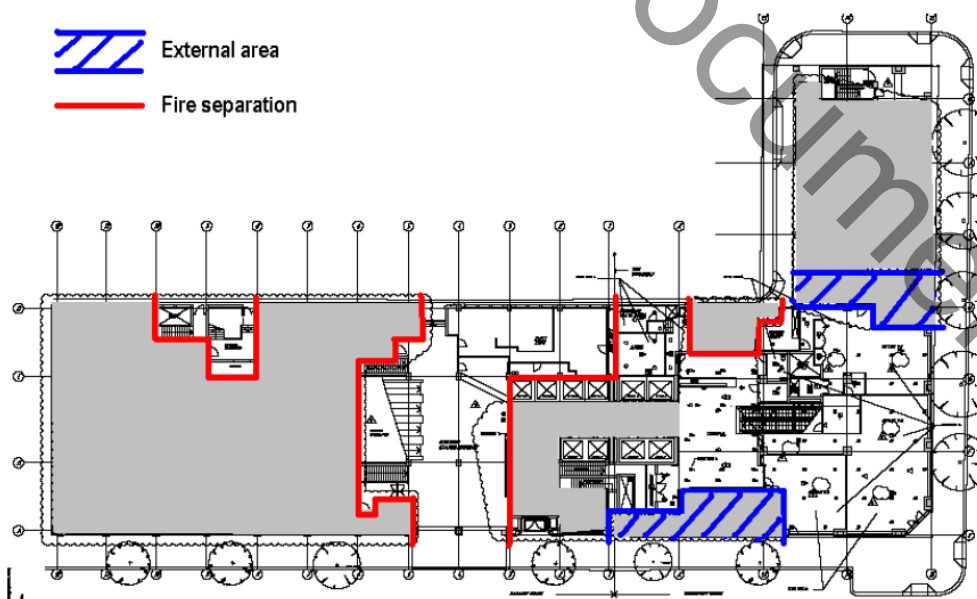

Figure 4 Ground floor mark-up of external areas and required fire separations
7. The design utilises active fire safety systems to control fire and smoke spread within the building. Ground floor and level 1 of Transport House and all of level 2 – Transport House and Railway House – will form a single fire compartment and are to be treated as a compartment that complies with the maximum requirements in accordance with C2.2 of the BCA. Refer to item 9 for location of fire separations.
8. Fire separation is required to be provided between basement, the Services NSW (ex RTA) tenancy and the ground floor level as indicated in Figure 4. The FRL to be achieved must not be less than -120/120 construction.
- b. The smoke detection within ground floor areas fire separated from the ground to level 1 fire compartment, eg the ground floor Service NSW tenancy, and retail area 2 separated by external space as illustrated in Figure 4 may comply with AS/NZS 1668.1-1998.
- a. Areas fire separated from the level 1-11 fire compartments such as the basement carpark, roof top plant, ground floor Service NSW tenancy and retail area 2 as illustrated in Figure 4 may be standard response head, ie may be concealed heads.
- b. Areas external to the building as illustrated in Figure 4 such as the pedestrian walkway on the ground floor.
- d. The ground floor lift lobby area as illustrated in Figure 4.